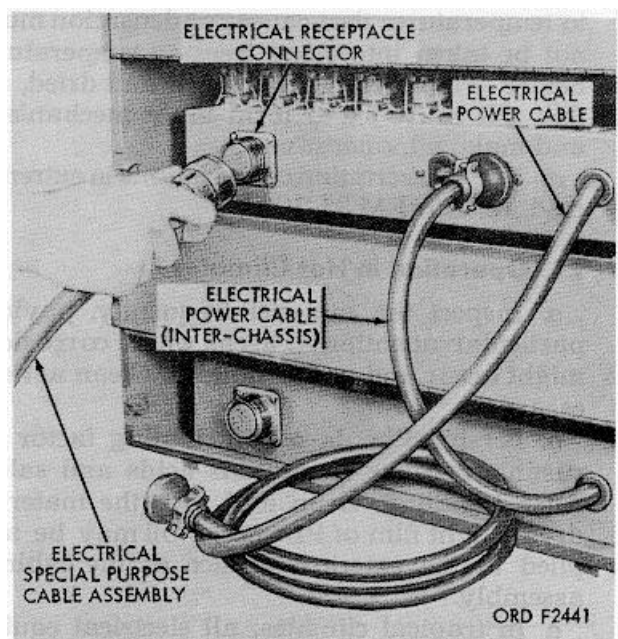

Figure 10. Connecting cable assembly to electrical receptacle connector in counter chassis assembly.
- (5) Connect cables of the terminal box assembly to corresponding color coded receptacles on rear of counter chassis assembly and flasher chassis assembly (figs. 10 and 11).
- (6) Turn power toggle switch of counter chassis assembly to ON position. All counter assemblies should remain on the 1 position as recorded in (4) above.
- (7) Move to the target area and lightly tap each target once with finger or stick. Return to the counter chassis. Each counter should now read 2.
- (8) Turn power toggle switch to OFF position.